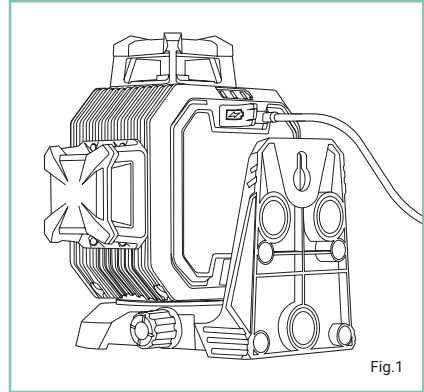

Fig. 1
- Insert the charging cable (USB-C) into the charging port on the laser (Fig. 1).